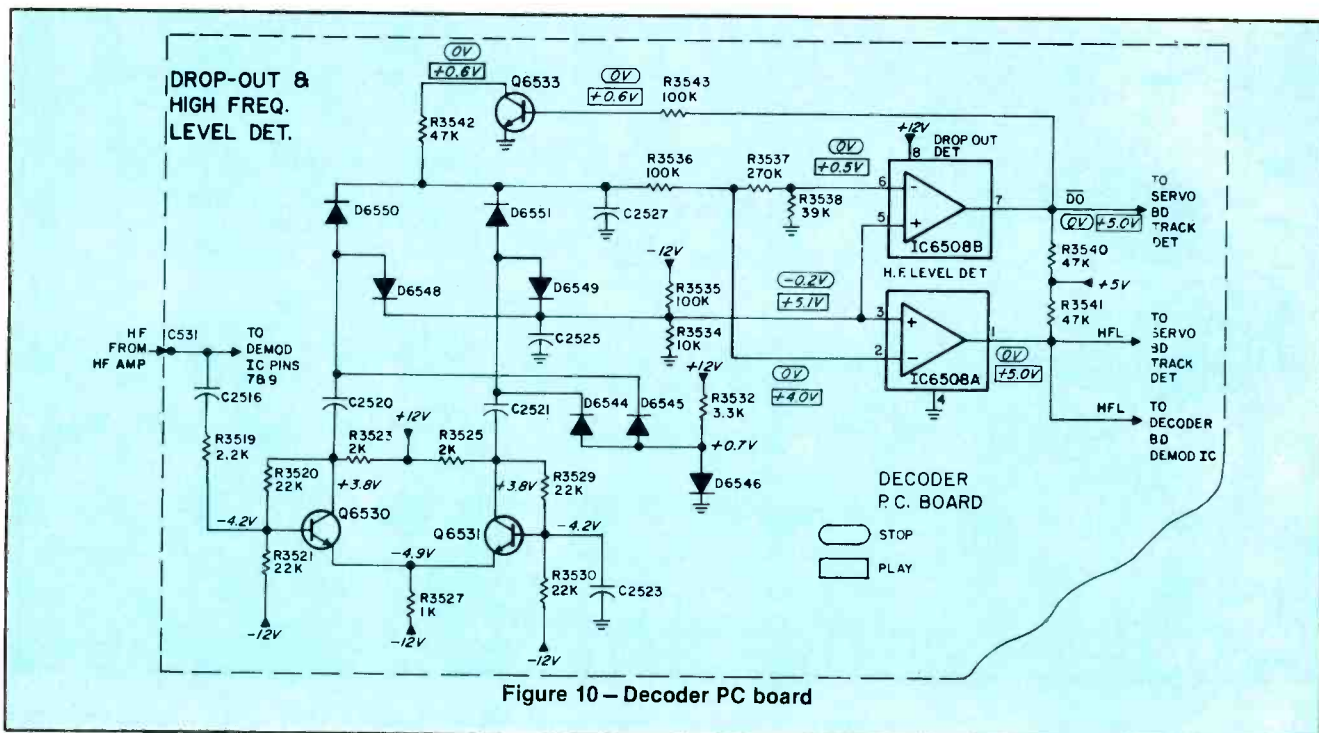

Figure 10 – Decoder PC board
The focus control O (FCO) output on pin 18 of the servo microprocessor is used to hold the motor control error signal (MCES) line at 0V before start-up, thus preventing the turntable motor from rotating until the servo microprocessor receives the *play* command from the front panel. The high frequency (HF) signal from the HF amplifier is applied to connector 531 on the decoder PC board, Figure 10. The HF signal is coupled through C2516 to the differential amplifier, consisting of Q6530, Q6531 and their associated circuitry. The two outputs are coupled through C2520 and C2521, inverted relative to each other, and applied to two fullwave rectifiers consisting of diodes D6550, D6551, D6548 and D6549. Diodes D6544, D6545 and D6546 along